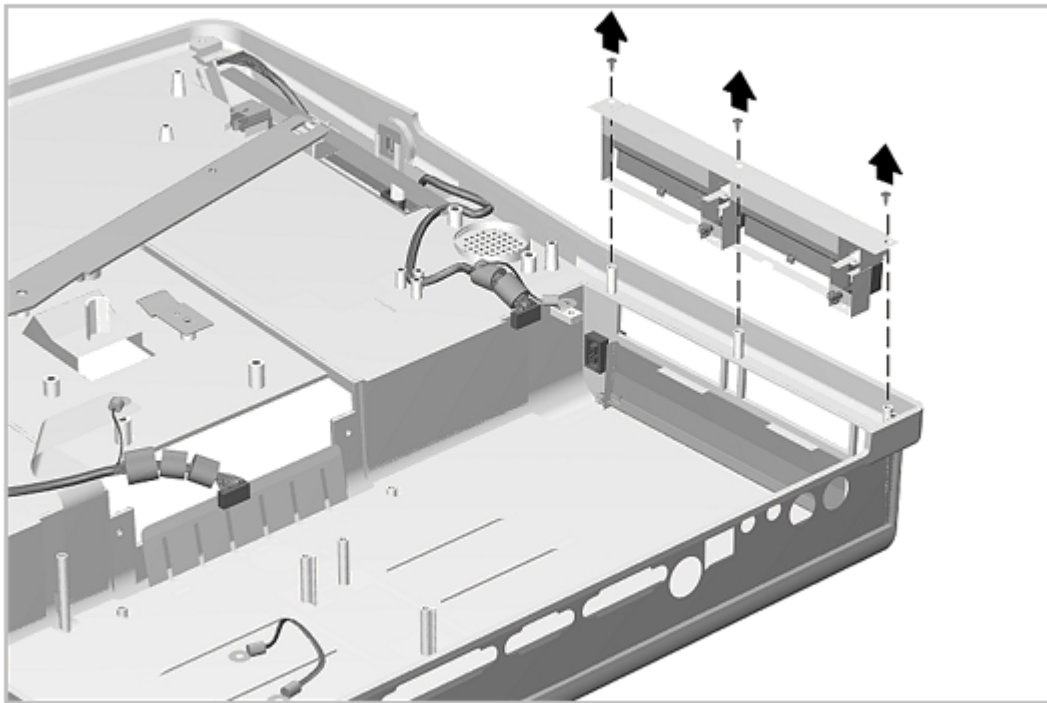

Figure 7-26. Removing the PC Card Door Assembly
4. Remove the three screws and lift the PC Card door module out of the bottom cover assembly (Figure 7-26).